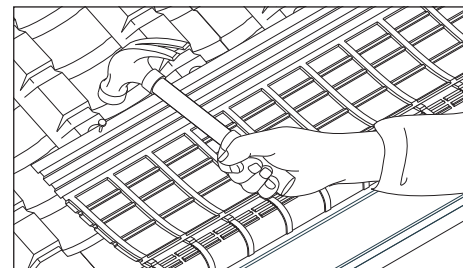

Fig. 3
- 5 Place felt support trays over the over fascia vent strips and nail to rafters with 25mm x 3.35mm aluminium nails (Fig. 3).